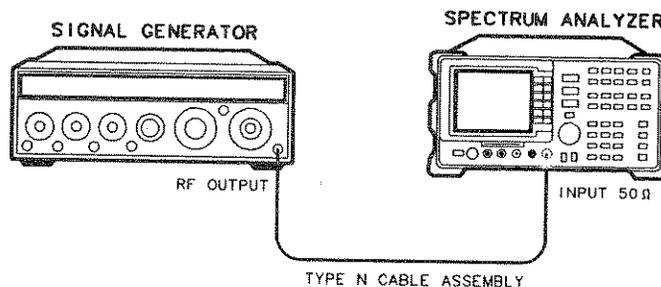

Figure 4-4. Noise Sidebands Test Setup
2. Connect the equipment as shown in Figure 4-4. *Option 026:* Use the APC adapter to connect the cable to the analyzer input.